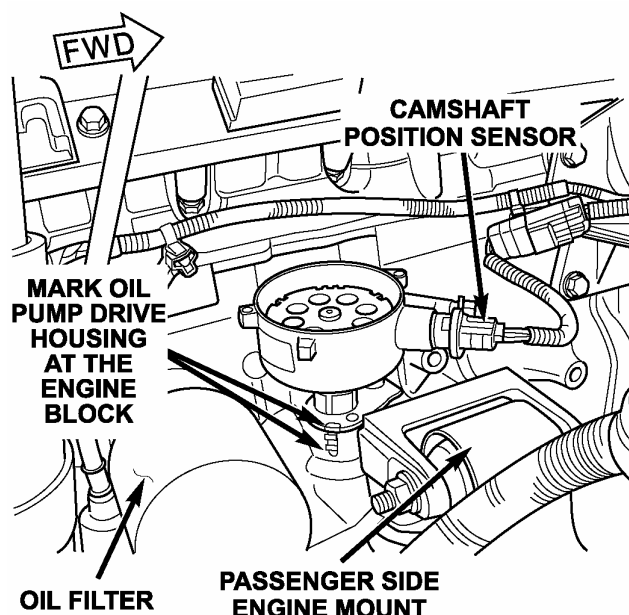

Figure 3
4. If not previously performed during date code inspection, mark the position of oil pump drive housing in relationship to engine block (Figure 3).
19. Rotate oil pump drive housing back to its original position using the alignment marks made in Step 4 of this procedure (Figure 3).